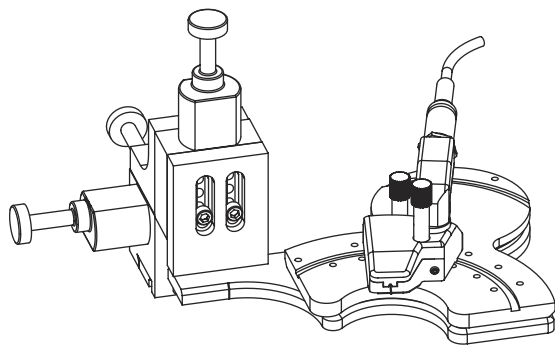

Figure 5.10: CTM assembly on the stage plate
- 2) Place the magnetic stage back onto the XYZ stage as shown in Figure 5.10.